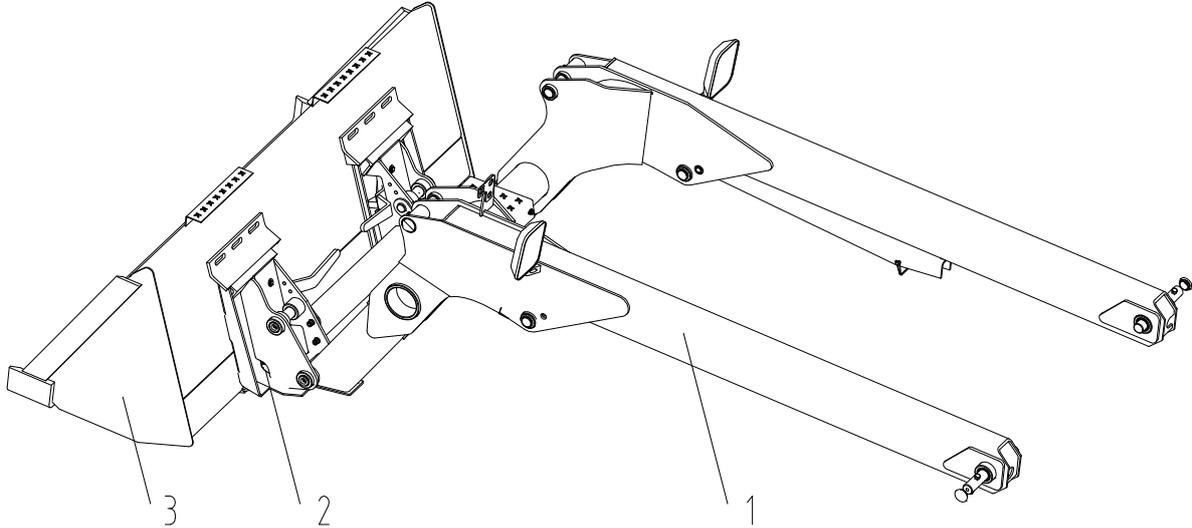

Fig. 7 Working Device Diagram
2.5.1 The working device of the loader mainly consists of boom, bucket seat and bucket, as shown in Fig. 7.